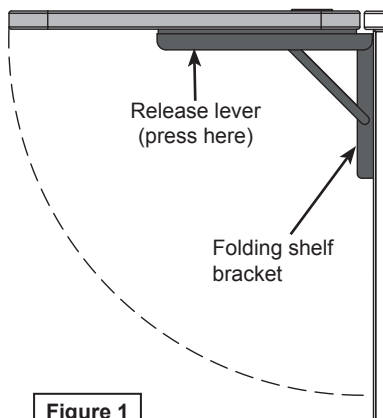

Figure 1
2. Extend and lock the folding shelf brackets into the horizontal position. **Figure 1.**
The shelf will automatically lock into place when lifted into the horizontal position with the levers released. **Figure 1.** To lower or flip-up the shelf, press and hold the levers under each folding shelf bracket at the same time while slowly lowering or raising the shelf. Do not move the unit while the shelf is in the horizontal position.